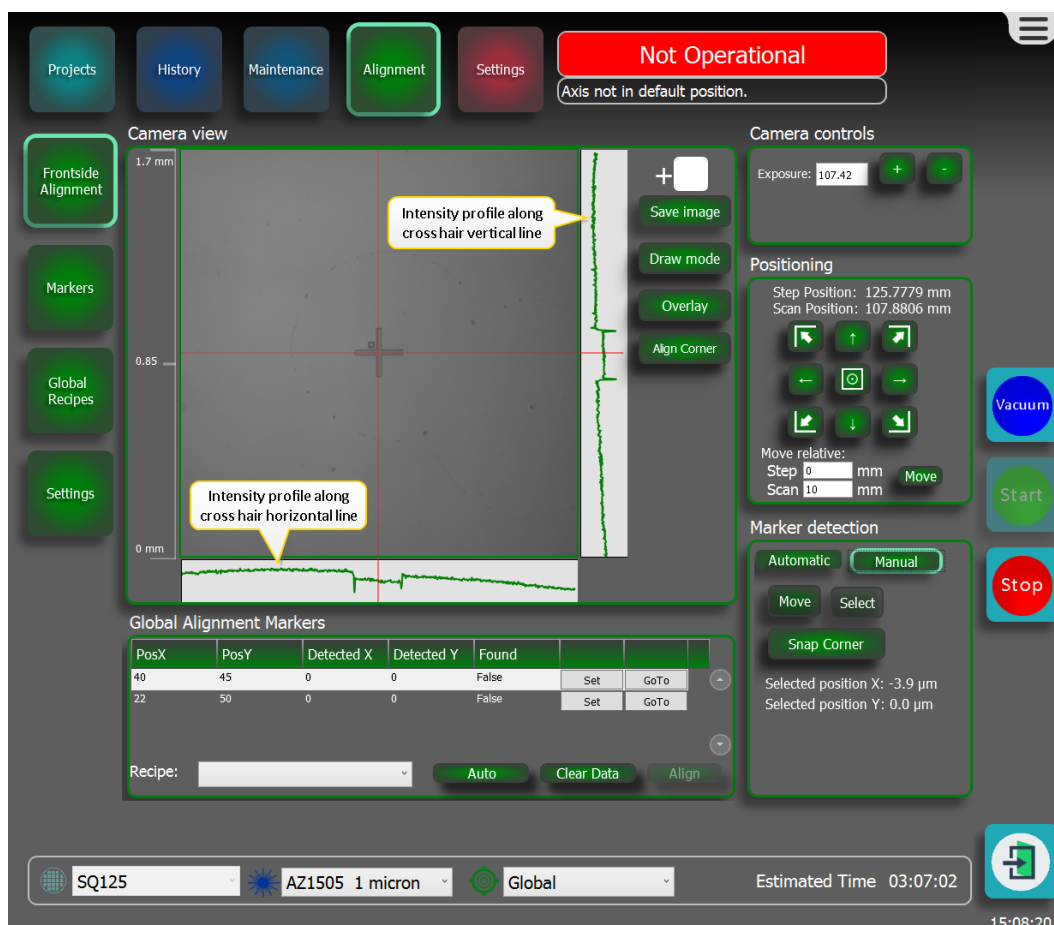

Figure 3-124 Doing manual marker detection
1. At **Marker detection**, select **Manual**, see **Figure 3-124** below.